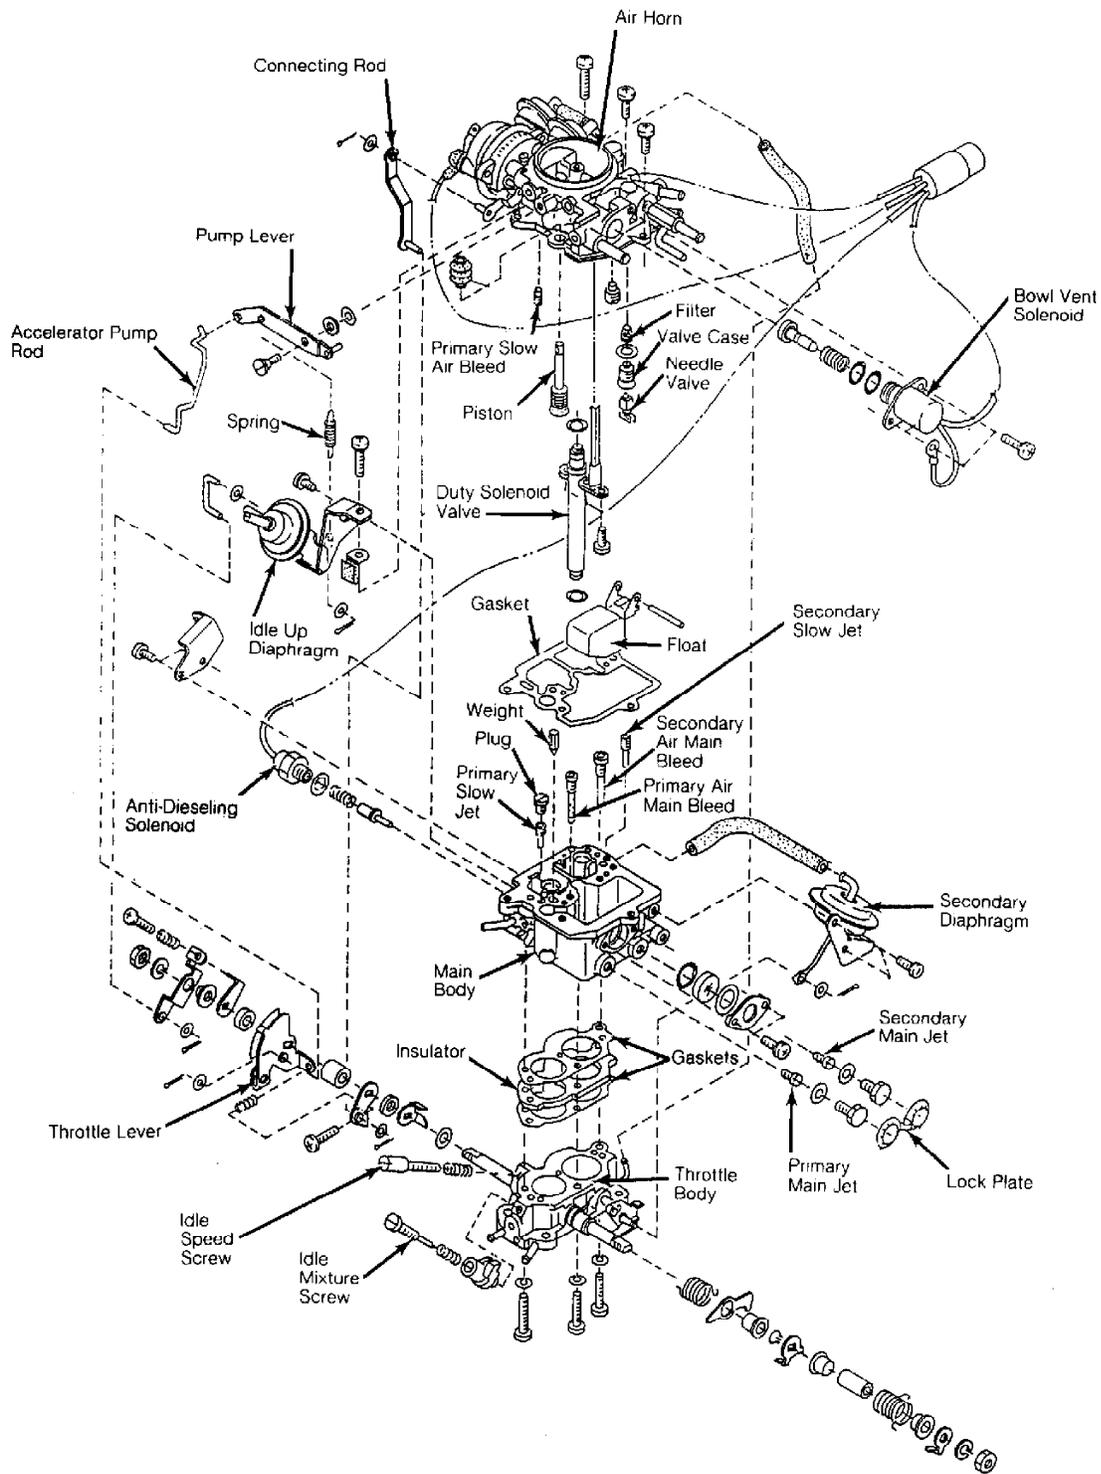

Fig. 4: Exploded View Of Carburetor (Justy)
1) Remove throttle return spring. Remove pump lever shaft screw, pump lever, washer and spring washer. Separate accelerator pump rod and pump lever. Remove connecting rod, cotter pin and washer. See Fig. 4.
To reassemble, reverse disassembly procedure. See Fig. 4. Use new gaskets. Ensure primary and secondary barrel components are installed in original locations. Install piston return spring with hook facing downward.